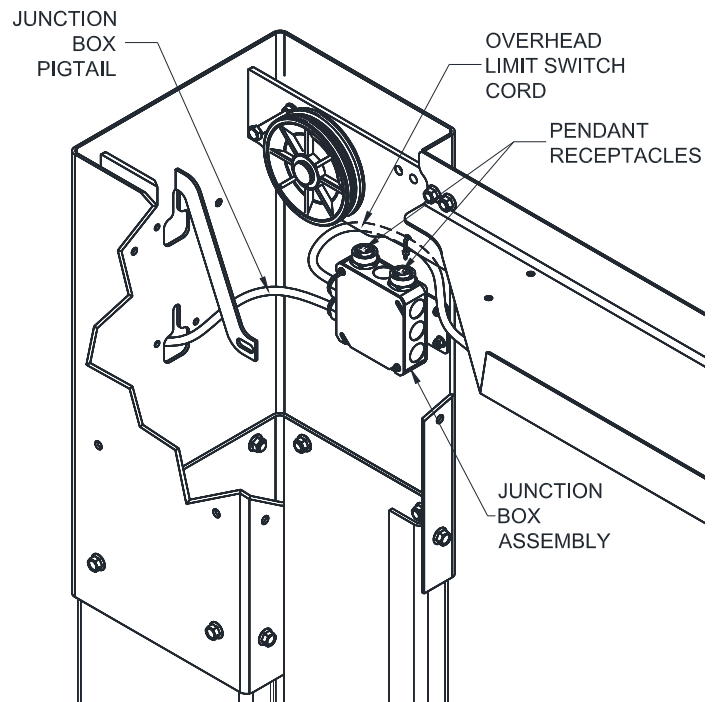

Fig. 9 – Junction Box Assembly
27) Install Junction Box Assembly to inside of Power Column with (2) #10-32 x 1/2" lg. phillips pan head screws and flange nuts, Fig 9.
- 30) Connect the overhead limit switch pigtail to the receptacle in the junction box, **Fig 9**.